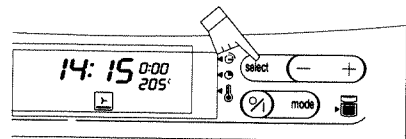

Fig. 6
4. Press the  position again to set the cook time (fig. 6). The display marked 0:00 will flash.